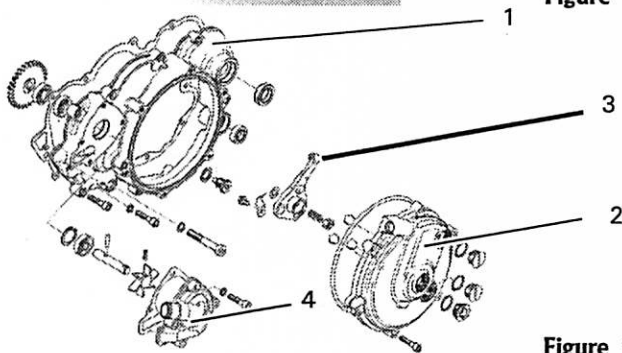

Figure 14
The clutch cover (1, Figure 14) is a sub-assembly consisting of the clutch release cover (2), clutch release mechanism (3) and water pump (4).